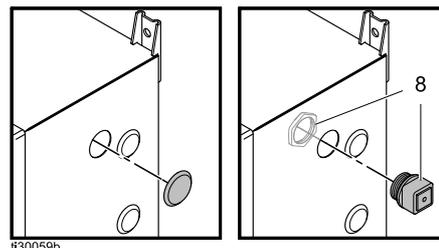

Figure 8 Speed Controller Plug, Cable Fitting, and Nut
1. Locate the 1-5/16" plug on the side of the control box enclosure. (See Figures 8 and 9).
8. Install nut to fitting on the inside of enclosure to keep the cable fitting in place (see Figures 8 and 9).